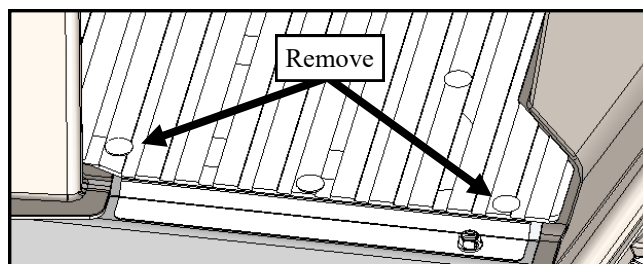

Fig. 3.8 (Remove 2 Fir Tree Clips)
- 3.8 Remove the two plastic fir tree clips from the rear floor pan where shown in **Fig 3.8**.